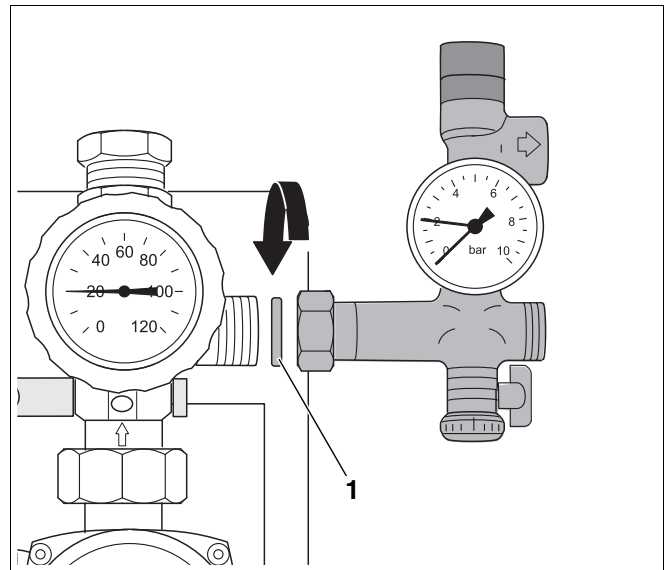

Fig. 7 Install the safety assembly
- ▶ Install the safety assembly with the gasket enclosed (21 x 30 x 2) (Fig. 7, **Item 1**) on the solar pump station return.